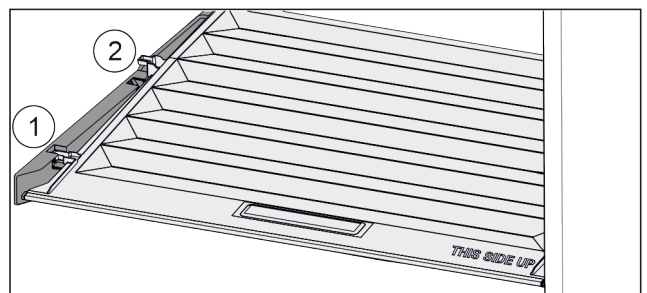

Fig. 93
- Pull the lid up at the front to the opening in the retaining parts Fig. 93 (1).
- ▶ Lift from the back and pull it up and out Fig. 93 (2).